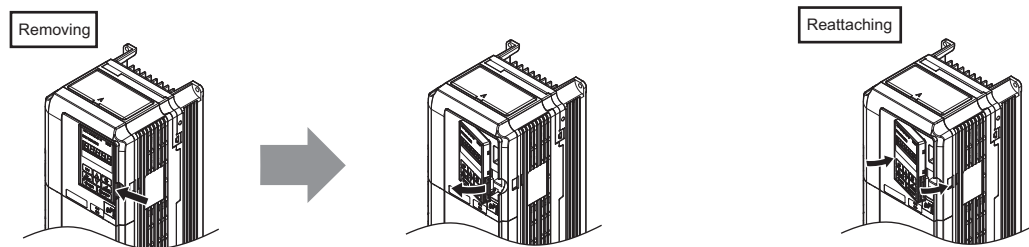

Figure 3.16 Removing/Reattaching the Digital Operator
4. Unhook the left side of the front cover then swing the left side towards you as shown in Figure 3.16 until the cover comes off.